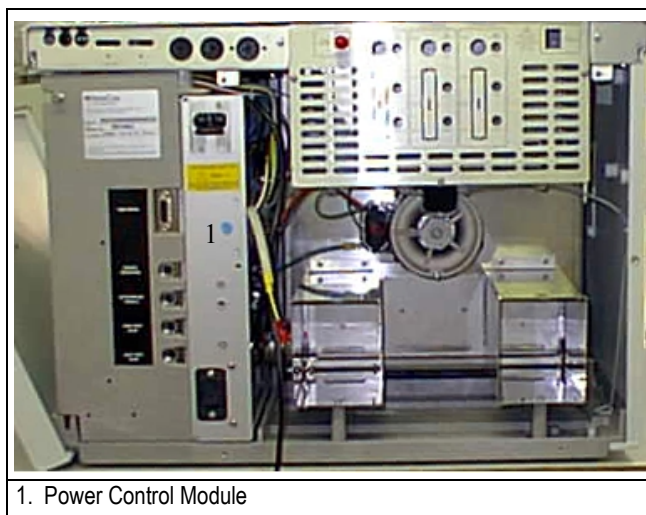

Figure B-8. TRACE GC 2000 Rear View
2. Slide the Power Control Module very slowly and gently outward towards the rear of the GC. See Figure B-8 on page 370.